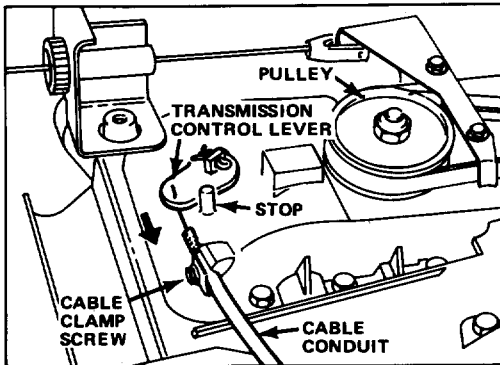

Figure 30
3. ADJUSTMENT (Fig. 30)—Loosen cable clamp screw until cable conduit slides. Move ground speed control to “N” position. Push transmission control lever toward stop until you feel a “snap”. The transmission control lever should be close to the stop when the snap is felt. Pull cable to remove any slack and tighten cable clamp screw.
4. CHECK ADJUSTMENT—Assure ground speed control is in “N” and pull mower backward. Pulley (Fig. 30) should not rotate. If pulley does rotate, readjust for neutral: refer to step 3.